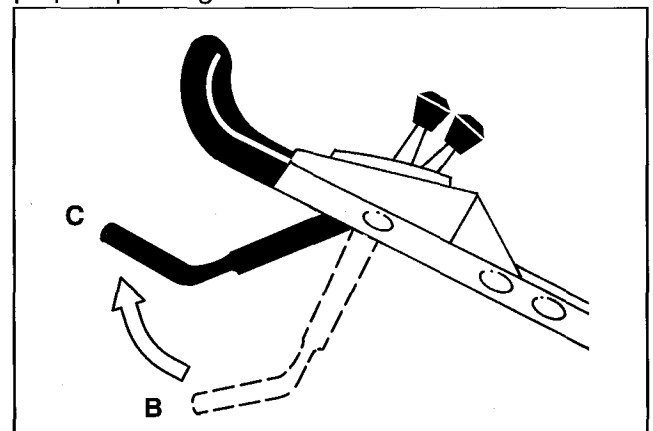

Figure 16
8. Bring the control bar up into the mid position (about 5 inches below the handle cross bar) (Fig. 16, position C).
9. Release control bar (Fig. 16, position B).